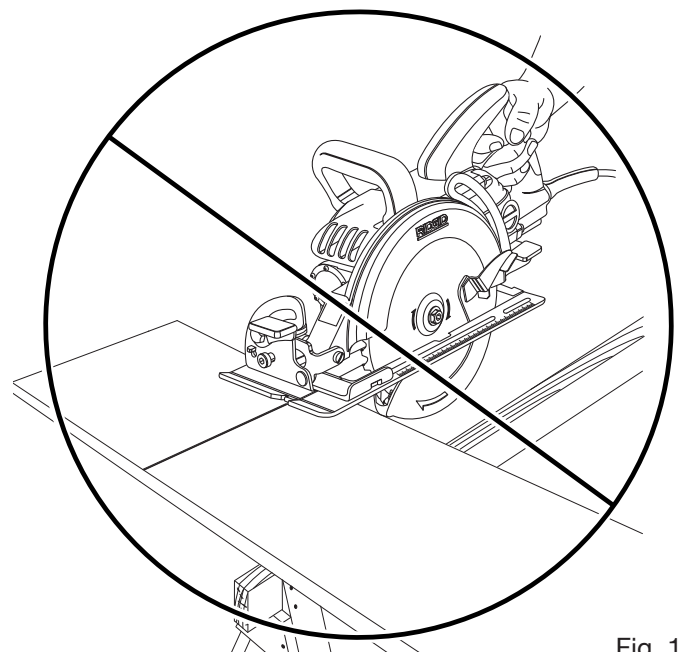

Fig. 13
- Avoid placing the saw on the part of the workpiece that will fall off when the cut is made. See Figure 13.